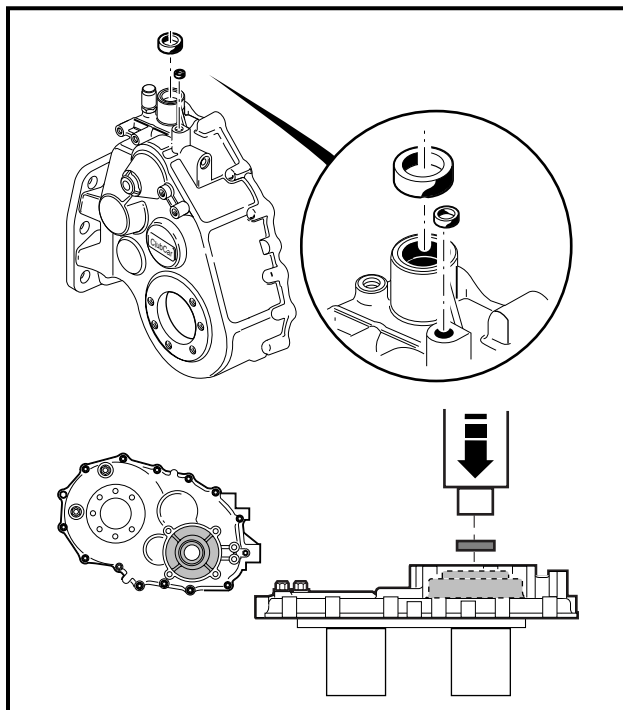

Figure 5-39 Install Seals
2. Put a light coating of clean transmission oil on the outside edge of the seal to make installation easier. Press two new oil seals (13 and 22) (**Figure 5-3, Page 5-3**) into the left (driver) side case. Use an oil seal installation tool (CCI P/N 1014160) to install a new oil seal (55) (**Figure 5-11, Page 5-7**) into the right (passenger side) case. See also **Figure 5-39, Page 5-21**.